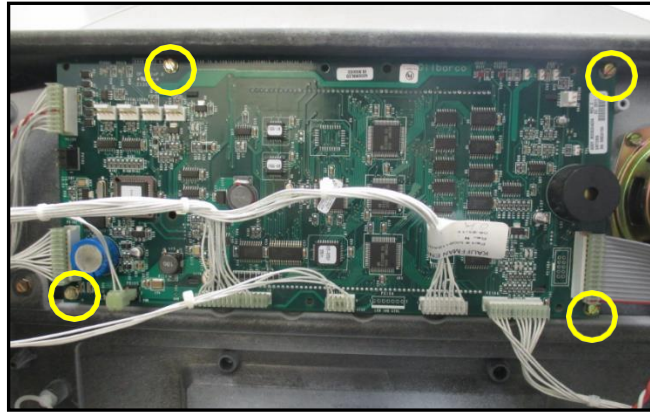

Fig 1.14 – Location of Door Node screws
- 16.** Remove the four #6-3/8" sheet-metal screws fastening the Door Node to the back side of the Dispenser Door. Save these screws for later re-use during installation. Carefully set the Door Node inside the electronics cavity out of the way. Use a soft anti-static cloth to protect the electronics and displays from damage. Undo any necessary cable restraints that may be present. (Fig 1.14)